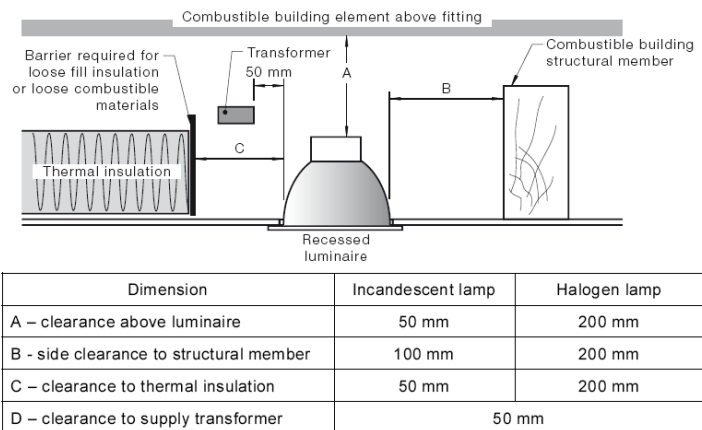

FIGURE 4.7 DEFAULT MINIMUM CLEARANCES FOR RECESSED LUMINAIRES
- Figure 4.5 is replaced with figure 4.7 of AS/NZS 3000:2007;